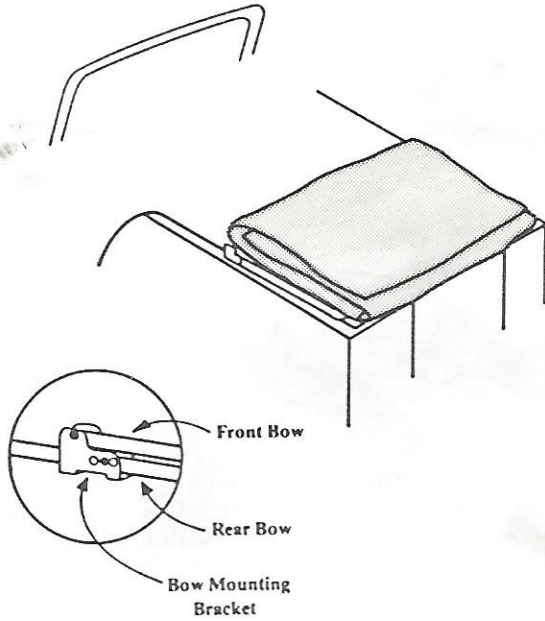

Fig. 23
5. Fold the Top in half from front to rear. See Figure 23.